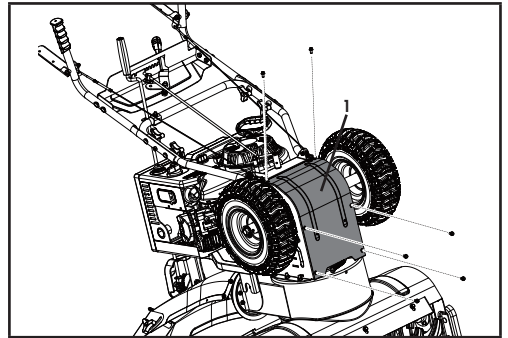

Figure 45A
2. Remove the base frame cover (1) from the underside of the snowblower by removing the six M6 × 16 screws which secures it (Fig. 45A).